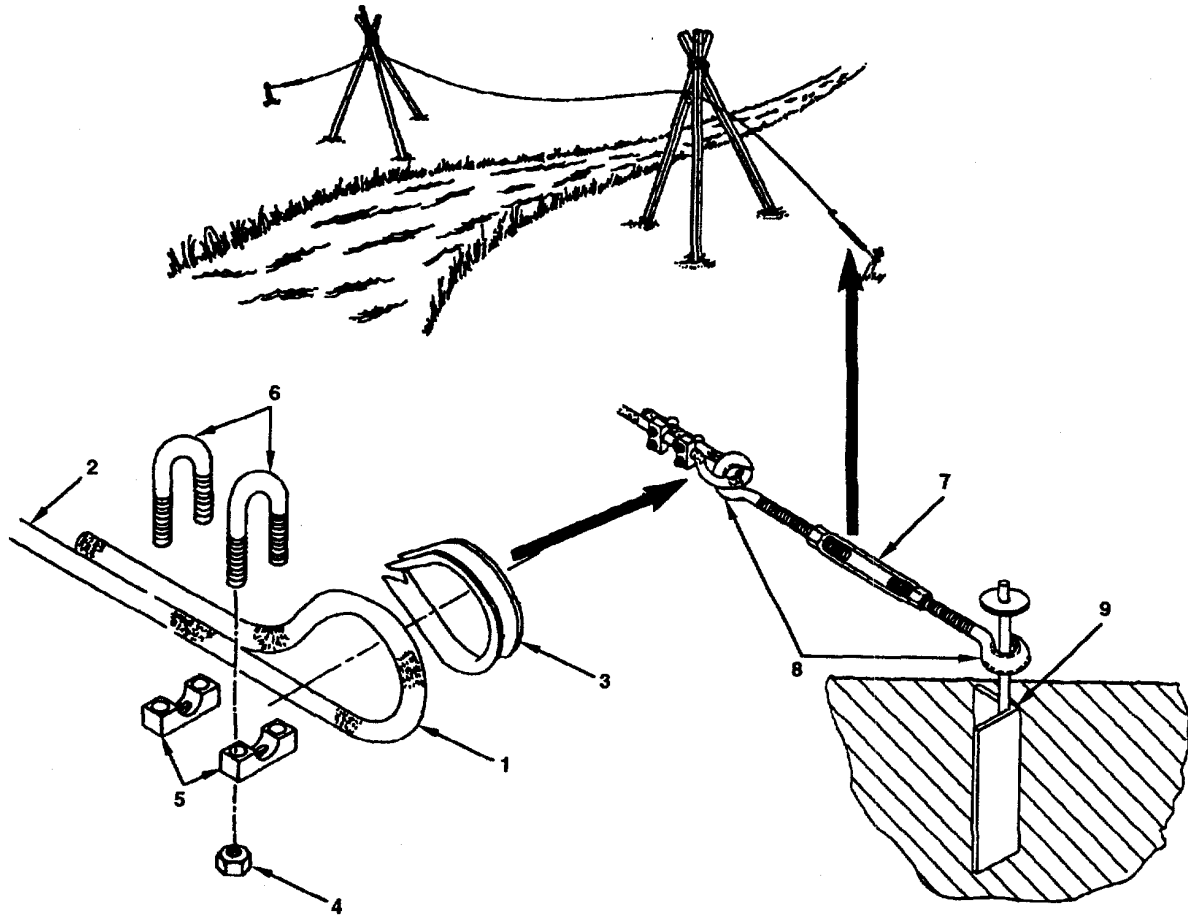

Figure 2-39. Securing Wire Rope.
- b. Using driving head (6), drive an anchor stake (3) into ground at a 30 degree angle approximately 15 feet from each tower. Anchor stakes (3) should be in line with tripods (1) and extend approximately 6 inches above ground.
- c. Hang a pulley block (4) from each tripod (1) and thread wire rope (5) through pulley (4) on near side. Tie manila rope to wire rope (5).
- d. Pull wire rope (5) across stream (2) or obstruction by manila rope.
- e. When wire rope (5) reaches far side of stream (2) or obstruction, remove manila rope from wire rope (5).
- f. Thread wire rope (5) through pulley block (4) on far side of stream (2) or obstruction.
- g. Construct loop of wire rope (Figure 2-39, 1) about 9 inches from one end of wire rope (2) and insert thimble (3) into loop.
- h. Locate two clamp assemblies (4, 5, and 6). Remove two nuts (4) and one clamp (5) from each U-bolt (6).